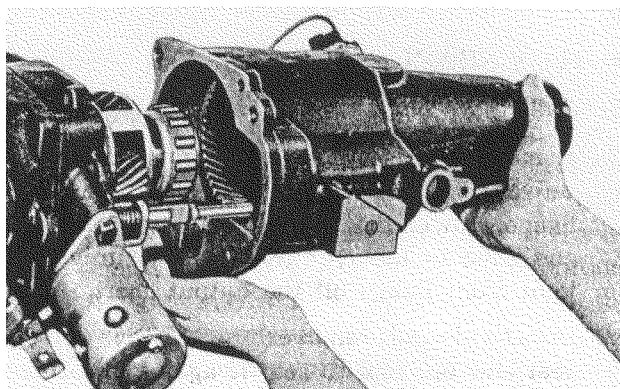

Fig. 30—Removing Overdrive Housing and Shaft Assembly
10. Pull overdrive housing including overdrive output shaft and ring gear assembly to rear, being careful to keep adapter from pulling away from transmission case (fig. 30) (catch the clutch rollers as they drop out of the retainer).